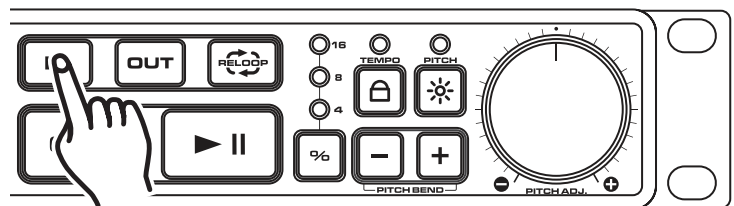

Figure 12
A cue point is the exact point playback will begin when the *PLAY/PAUSE BUTTON* (14) is pressed. You may set your cue point anywhere on a track. There are two ways to set and create a CUE point as detailed in figures 12 and 13.
- 1) You may press the *IN BUTTON* (8) on the fly (while the track is playing). This will set a CUE Point without music interruption. Pressing the *CUE BUTTON* (15) will now return you to the same point that you pressed the *CUE BUTTON* (15). Pressing the *CUE BUTTON* (15) will now return you to this exact point.